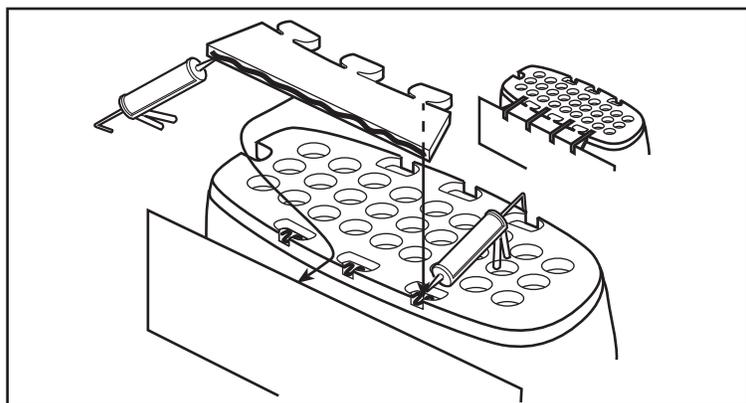

Figure 1
- 1** Tub Only- Attach apron support to bottom of tub (Figure 1). Tape it in place until adhesive dries.